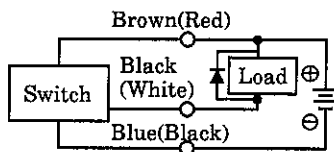

Fig. 7 An example of using inductive load together with surge absorptive element (diode). (Hitachi Mfg. made diode V06C or equivalent is recommended).
- Install some protective circuit as illustrated in Fig. 7 when inductive type load (Relay or solenoid valve) are to be used because those types apt to generate surge current switch off.